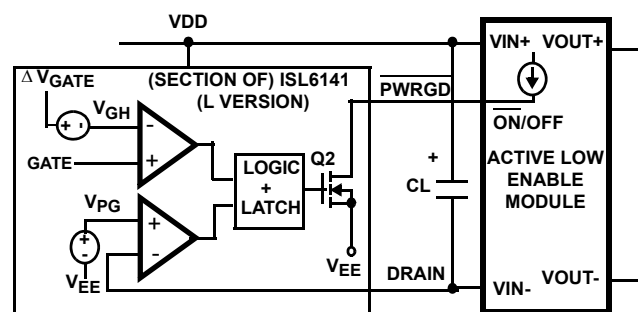

FIGURE 30. ACTIVE LOW ENABLE MODULE
**ISL6141** (L version; Figure 30): Under normal conditions ( $\text{DRAIN voltage} - V_{EE} < V_{PG}$ , and  $\Delta V_{\text{GATE}} - V_{\text{GATE}} < V_{GH}$ ) the Q2 DMOS will turn on, pulling  $\overline{\text{PWRGD}}$  low, enabling the module.